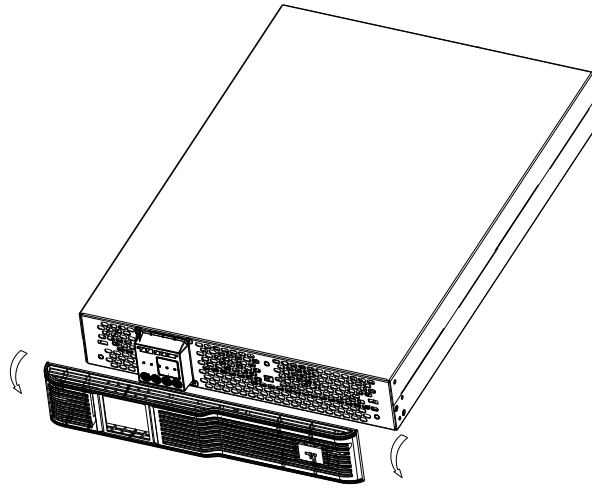

Figure 2-9 Removing the plastic panel
1) Take out the guide rails (one left guide rail and one right guide rail), guide rail screws and panel screws from the package, distinguish the left guide rail and right guide rail according to Figure 2-9, and confirm its retractable function respectively.
2. Any end of one guide rail has six installation holes (see Figure 2-9), do not use the two installation holes in the middle when fixing the guide rail. It is recommended to use the top and bottom installation hole (from top to bottom, installation hole 1 and installation hole 6).